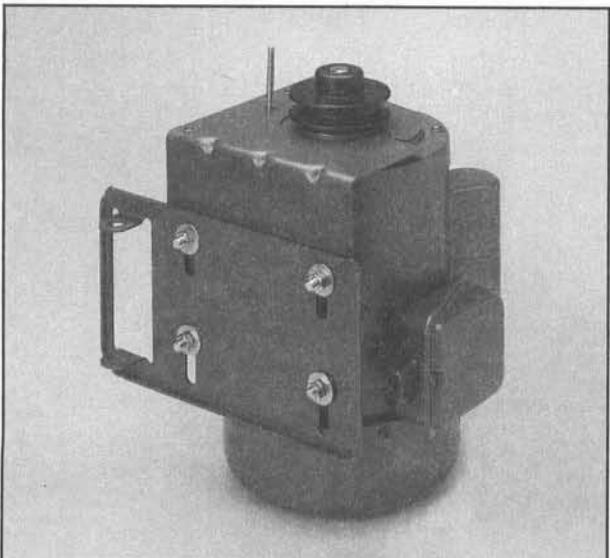

Figure 11.
3. Set the motor on end and slip the pulley guard bracket between the base of the motor and the motor plate. Tighten one of the four mounting bolts. Leave the other three loose. **Figure 11.**